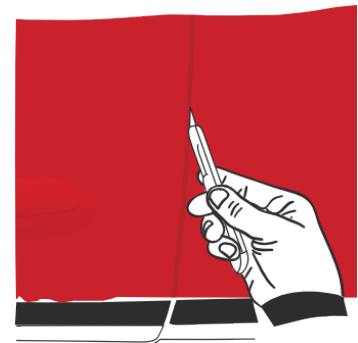

Figure 25
- For carrying out the cutting, the cutter blade must be placed against the thin edge of the part to be covered. During cutting, make sure you always follow this edge by inclining the cutter towards the outside. (FIG. 25)